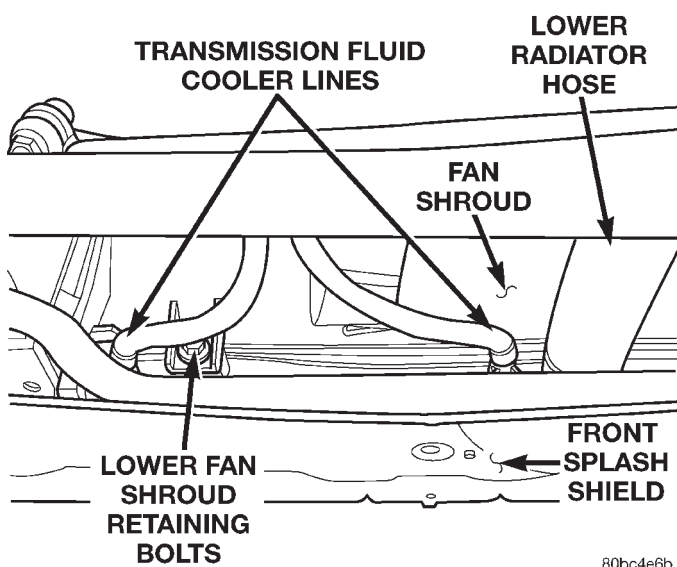

Fig. 21 Transmission Fluid Cooler Lines At Radiator
(23) Install the transmission fluid cooler lines on the radiator (Fig. 21).
(24) Install the lower front splash shield.
(25) Lower the vehicle on the hoist.
(26) Fill the cooling system. Refer to Group 7, Cooling System for the procedure.
(27) Connect the negative battery cable.